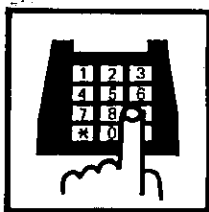

FIG.14
1. You must use a touch tone telephone or a tone dialer for remote operations.(FIG.14)